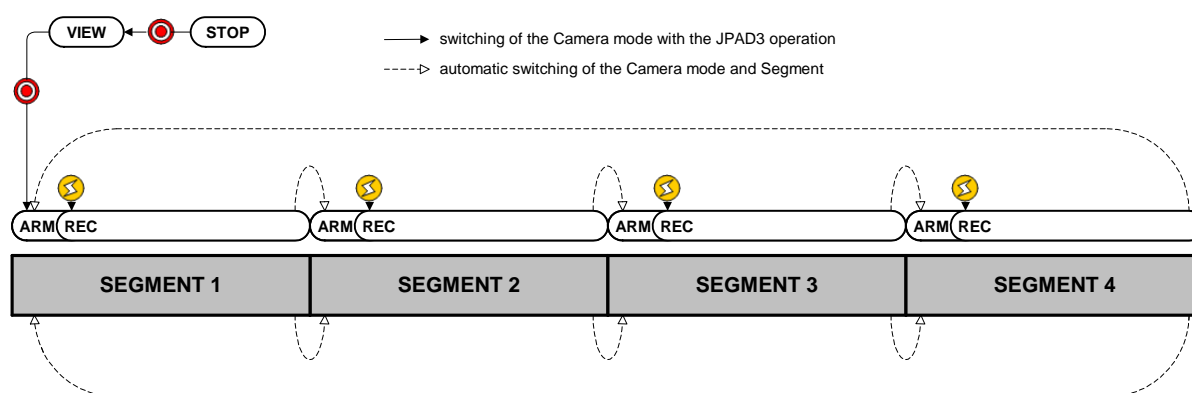

Figure 3-33 Normal Recording (NORMAL(L), Number of Segments : 4)
Figure 3-33 shows how to switch modes with the J-PAD3 during NORMAL(L) recording (top of the figure) and saving in the memory (bottom of the figure). NORMAL(L) refers to normal recording in LOOP mode.